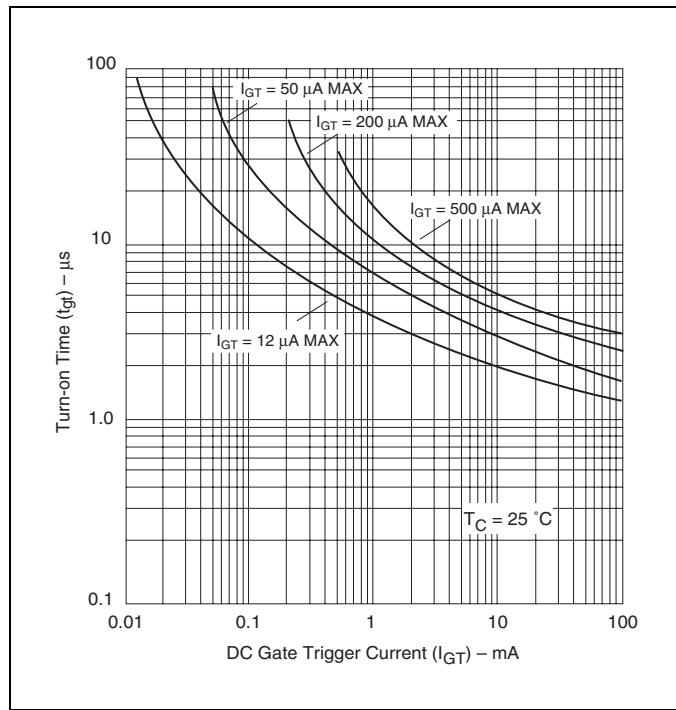
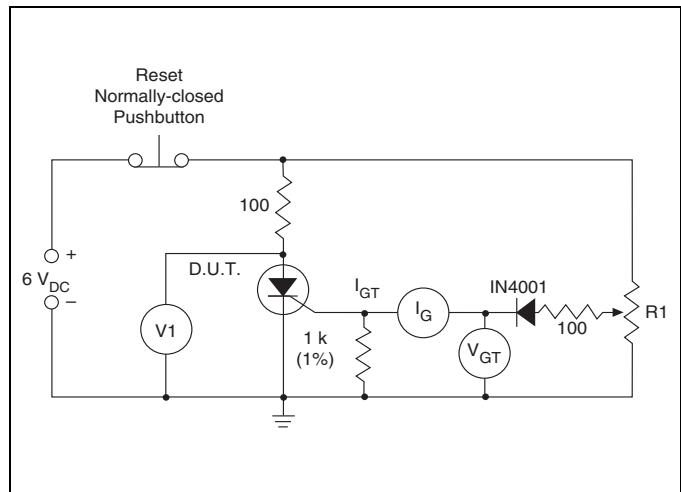

Figure E5.15 Typical Turn-on Time versus Gate Trigger Current
Figure E5.19 Simple Test Circuit for Gate Trigger Voltage and Current Measurement
- (8) See Figure E5.15 for t_{gt} versus I_{GT} .
- (9) Test conditions as follows:
- (10) Test condition is maximum rated RMS current except TO-92 devices are 1.2 A_{PK} ; T106/T107 devices are 4 A_{PK} .
- (11) See package outlines for lead form configurations. When ordering special lead forming, add type number as suffix to part number.
- (12) $V_D = 6 \text{ V dc}$, $R_L = 100 \Omega$ (See Figure E5.19 for simple test circuit for measuring gate trigger voltage and gate trigger current.)